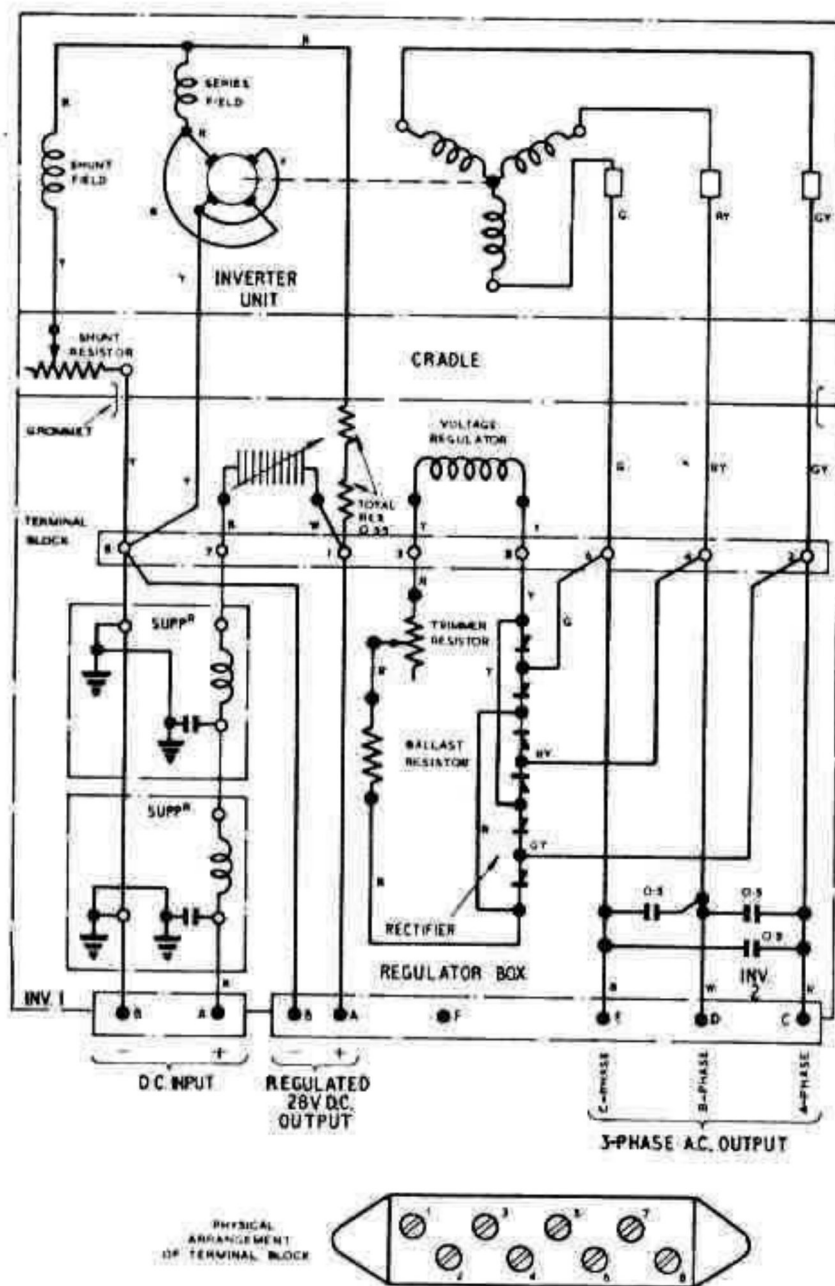

Fig.1 Circuit diagram
2. The d.c. input is by a 2-pole plug marked INV.1 and the output is taken from a 6-pole socket marked INV.2 disposed at opposite ends of the box. Pins C, D and E of INV.2 are connections for the three phases A, B and C respectively of the inverter 115V a.c. output, pins A and B provide for a regulated 28V d.c. output. Additional connections have also been made within the suppression unit, see circuit diagram fig.1.